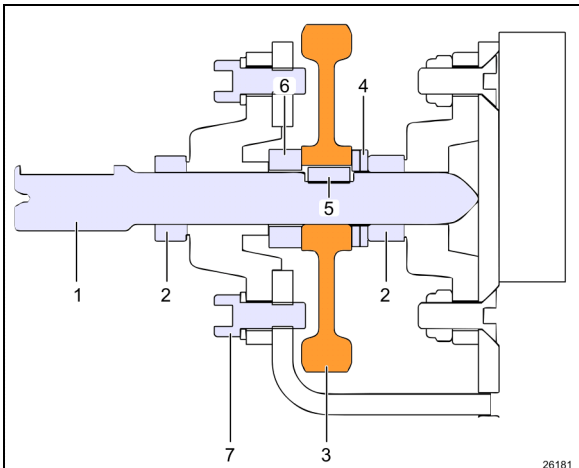

FIGURE 41: PINION ASSEMBLY SECTION VIEW.
1. Unscrew all set screws on the drive shaft yokes (item 4 in TORQUE TABLES). Slide drive shaft towards gearbox to disengage the yoke from the pinion shaft (item 1 in Figure 41).